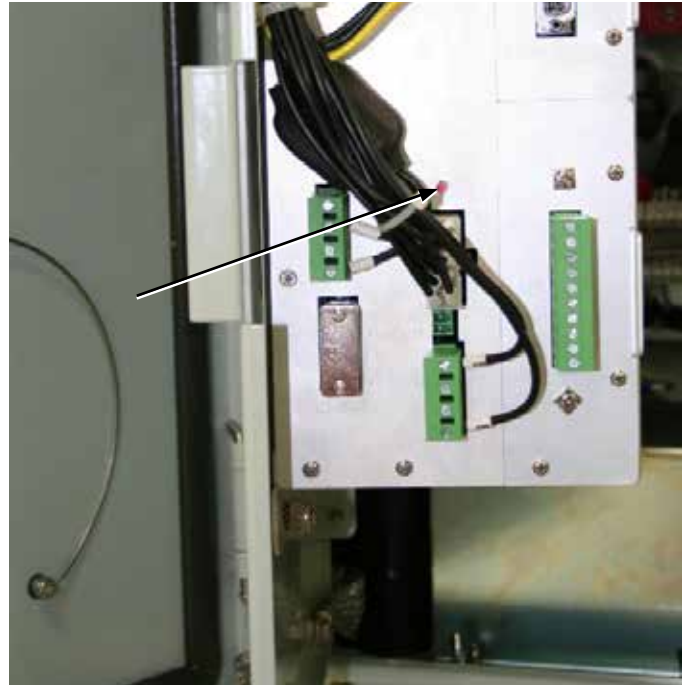

Figure 40. Location of pushbutton switch on the SPEAR single-phase recloser control side-panel for power-up with battery power only.
1. Open the swing panel and locate the pushbutton switch recessed inside the control side panel (Figure 40).
2. Momentarily (4-5 seconds) press the switch with a non-conductive tool (Figure 40). The control will power up.